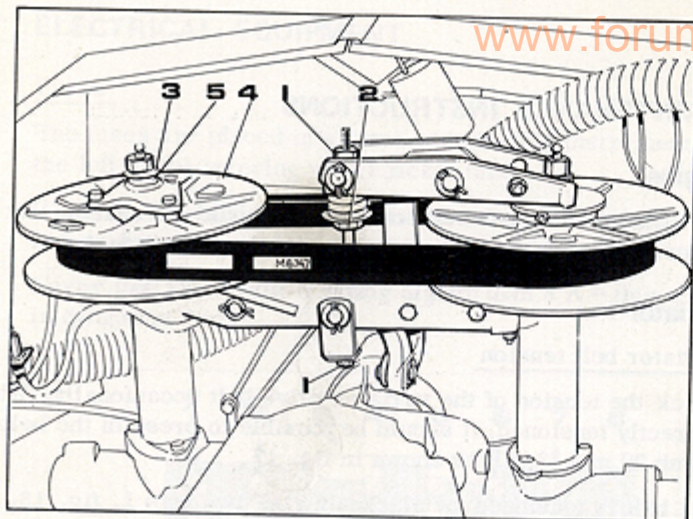

Fig. 18
The belt is tensioned by slackening the two nuts 1, fig. 18, an equal amount. The lower nut is slackened from inside the cab through an opening on the right-hand heater and defroster control, see fig. 7.
2. Bend down the tab washer 3, fig. 18, screw off the shaft nut on the right-hand steering shaft and pull off the upper half 4 of the variator pulley.